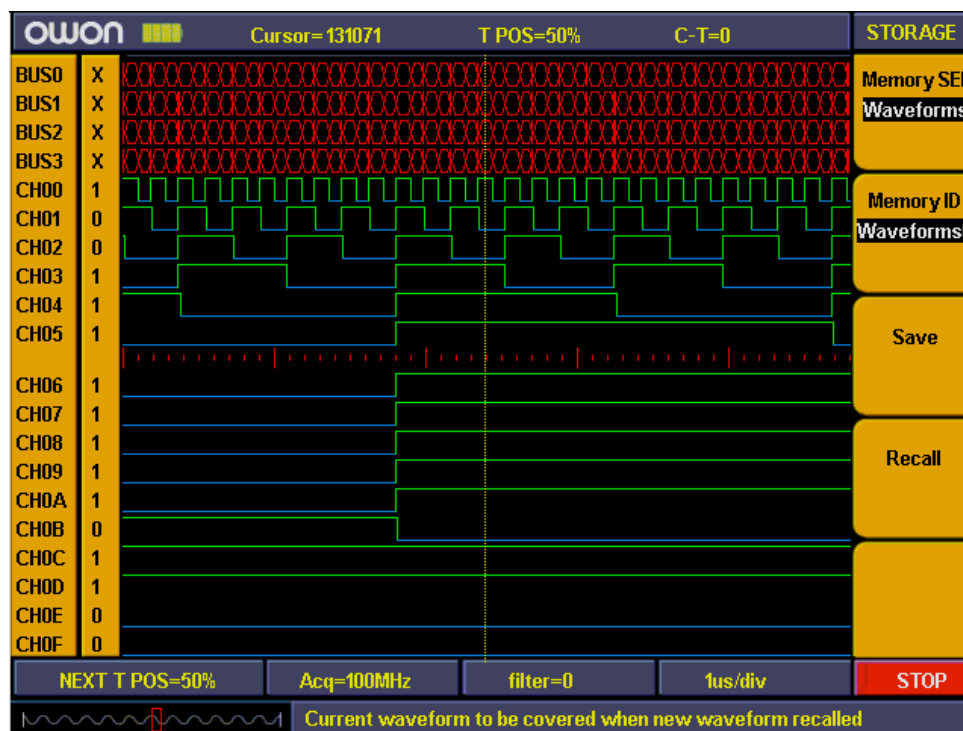

Fig.5-74: Waveform saving
8. Press “**F4**” to recall the memory waveform or settings (refer to **Fig.5-74**)